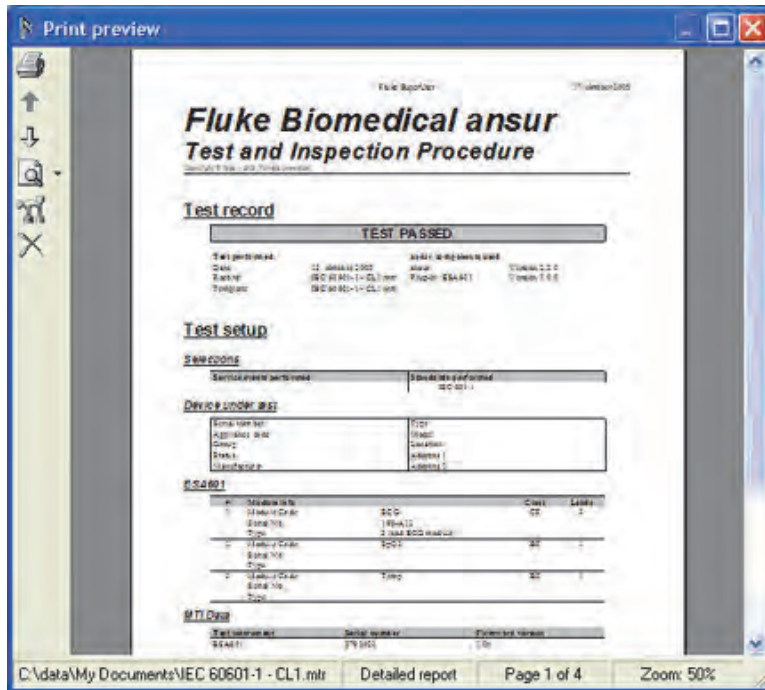

Figure 3-10. Print Preview Window
2. Select the **Report type** and click **Print**. The Print Preview window shown in Figure 3-10 appears.